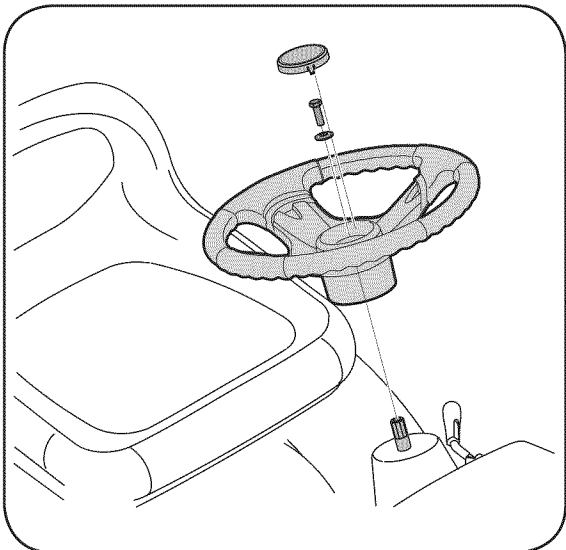

Figure 3-3
2. Place the washer over the steering shaft and secure with the hex bolt. See Fig. 3-3.